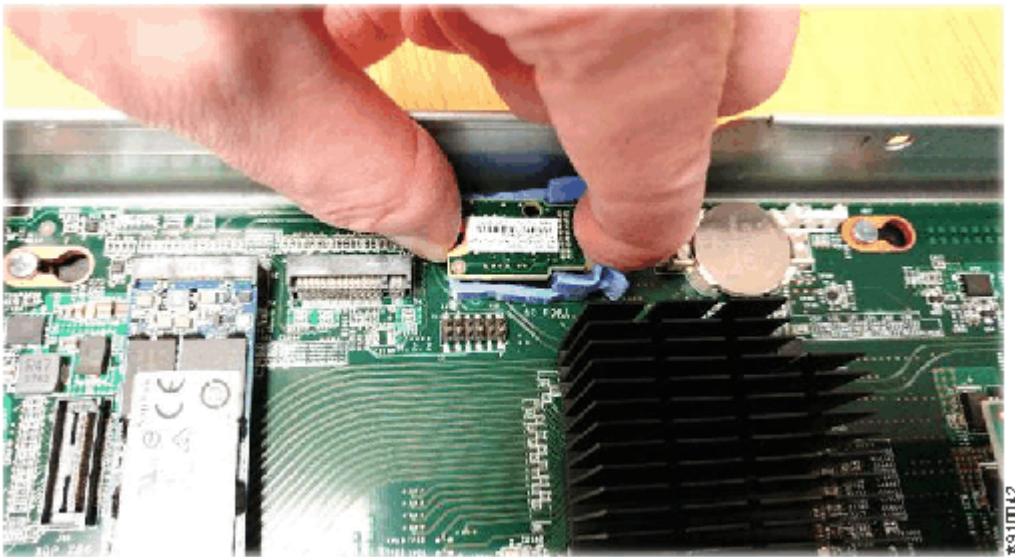

Figure 92. Removing the TPM
7. Insert your finger tip between the latches and hold the TPM between your thumb and finger, as shown in Figure 92 on page 141.